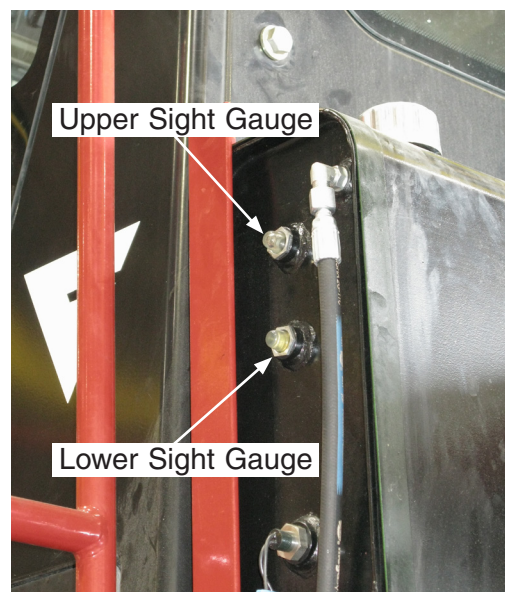

Figure 53. Hydraulic Oil Level
8. Check the hydraulic oil level in the tank located behind the operator's cab (see Figure 53). The oil level must be between the two sight gauges. Investigate cause for any loss of hydraulic fluid.